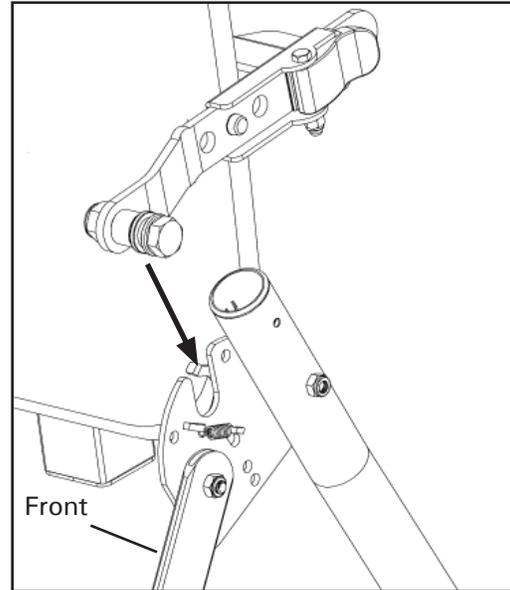

Figure 6
- Holding each side near the Roller Hinges, pick up the Bed Mat and stand at the front of the A-frame where the Crossbar is located. Lower each Pivot Pin into the A-frame hinge plates one side at a time (Figure 6).